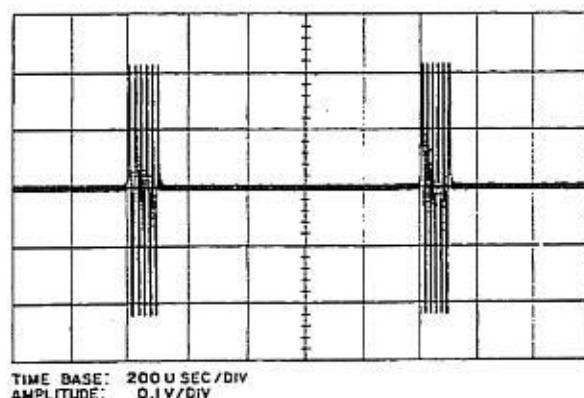

Figure 6.22 — Right Side of R61 Waveform
p. Reconnect oscilloscope to the junction of R61 and T4 pin 4 (or right side of R61). The observed 1 kHz spectrum waveform should resemble the one shown in figure 6.22.